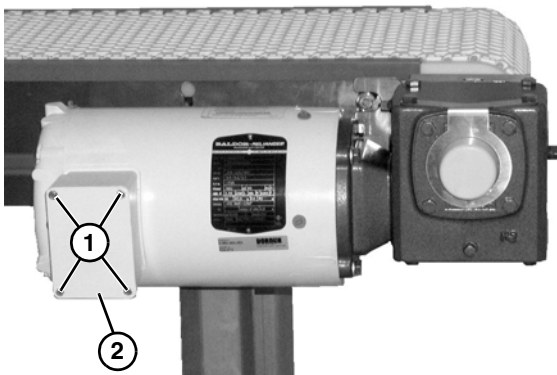

Figure 15
1. Loosen terminal box screws (Figure 15, item 1) and remove cover (Figure 15, item 2).